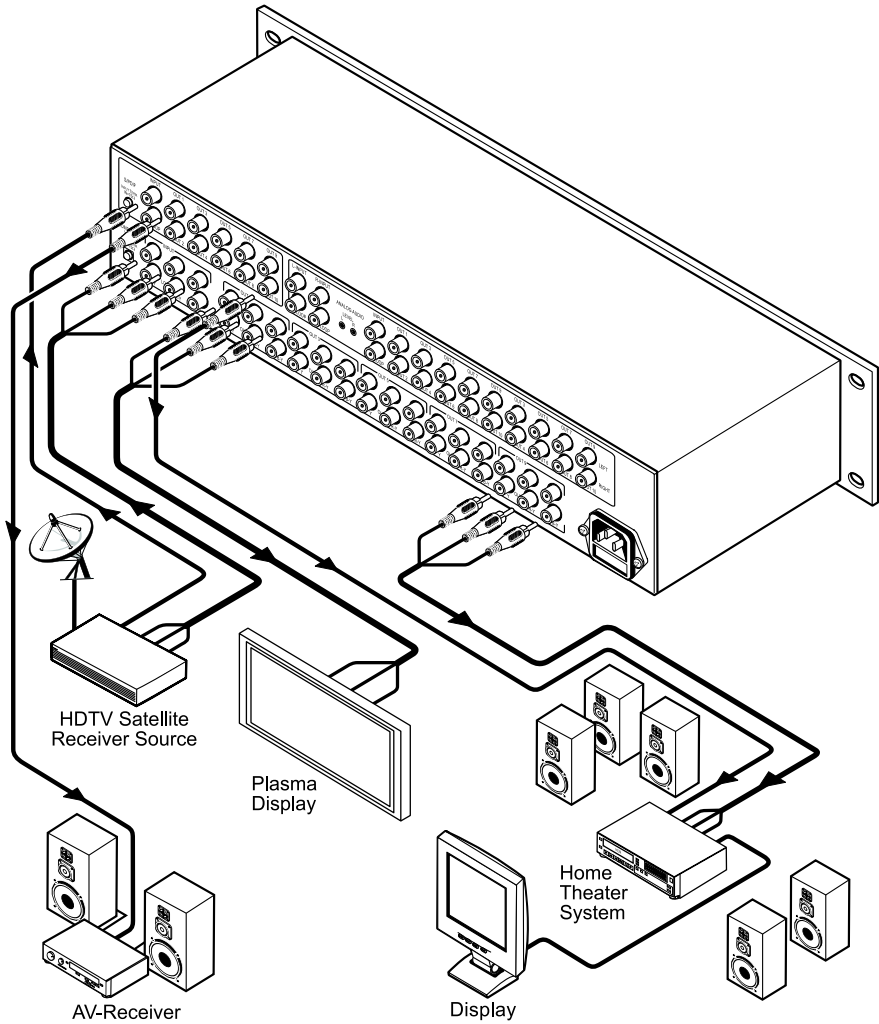

Figure 4: Connecting a VM-100CA Unit
To connect a single **VM-100CA** unit (*1:10 Video Component / Audio Distributor*) as the example in Figure 4 illustrates, do the following¹:
4. Connect the power cord (not illustrated in Figure 4).